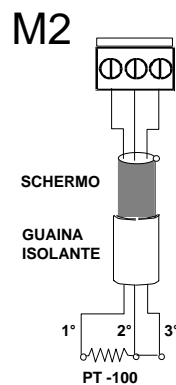

Figure 1.5 – 3 wires Pt100 connections
Choosing the sensor, be sure that the wires (3) connected to the sensor are electrically isolated from its metallic case. Dispersion currents towards the sensor metallic case can be detrimental to the precision of the reading. Pt100 sensors must be 3 wires type; for connection see figure 1.5.